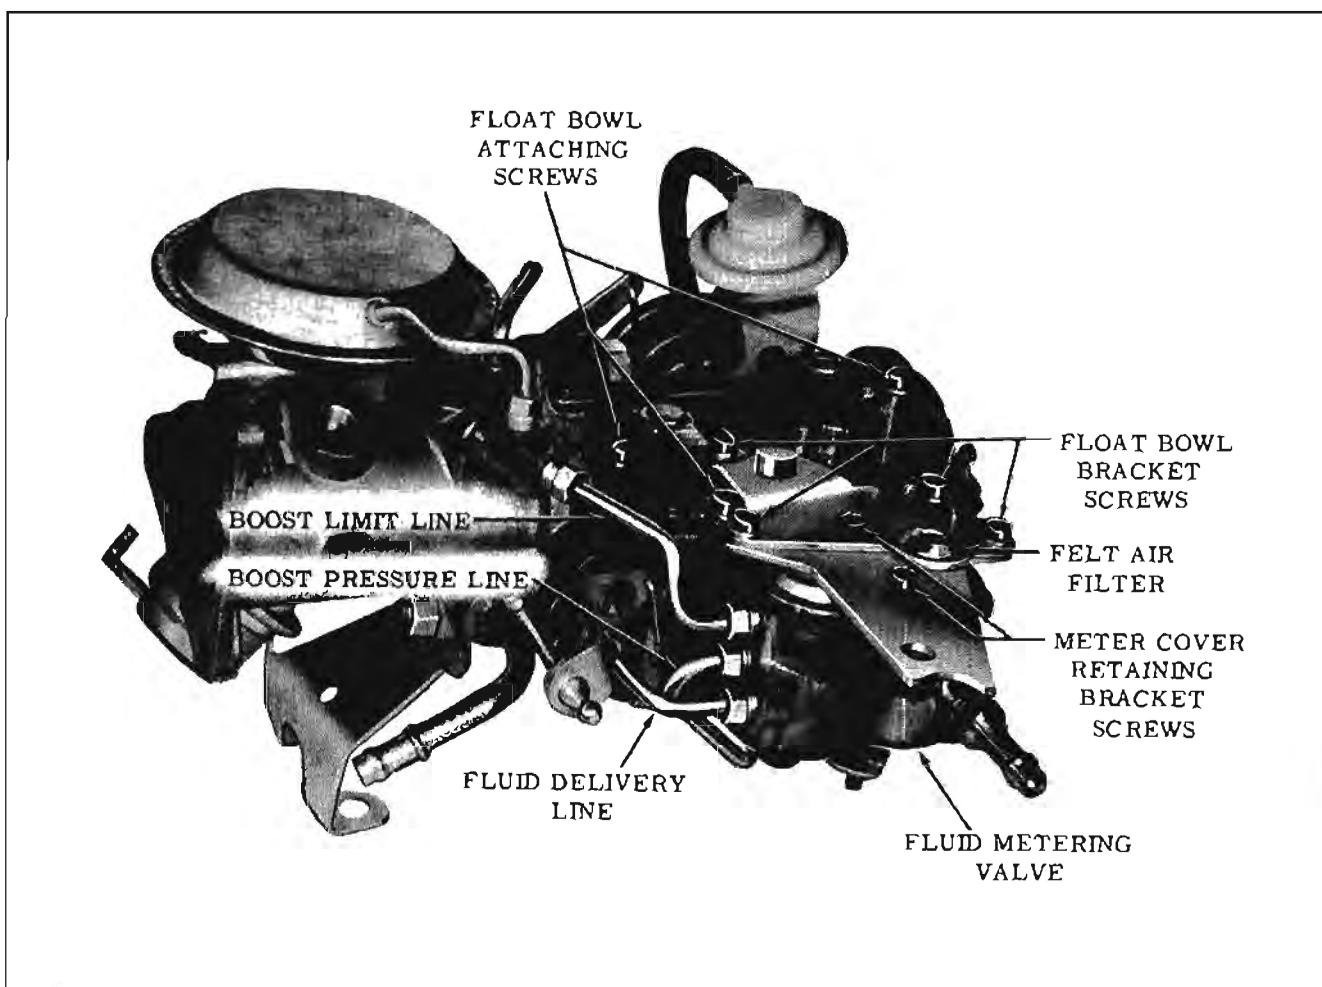

Fig. 9-131 Carburetor Assembly
2. Install float bowl cover retaining in place with three (3) attaching screws.
3. Attach fluid metering valve bracket to bowl cover bracket with the two attaching screws, making sure fluid metering valve fittings are aligned with their respective fittings in throttle body and boost limit diaphragm line. (Fig. 9-131)